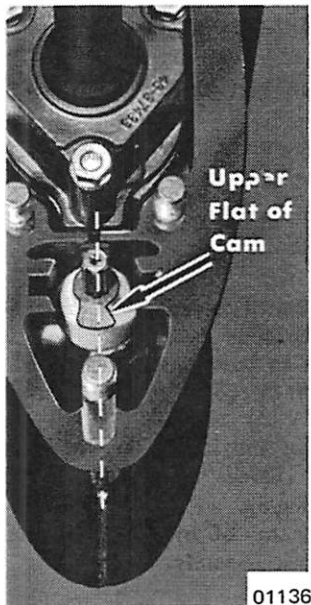
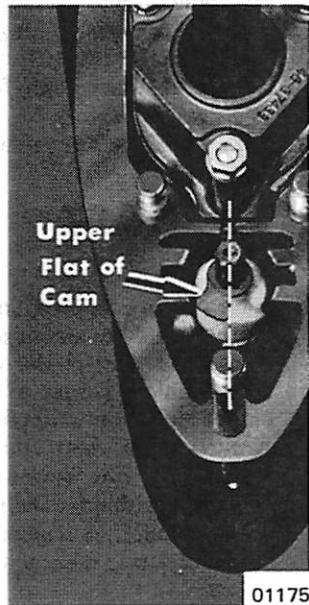

Figure 2. Cam in Reverse
Figure 3. Cam in Neutral
2. Install cam over gear housing shift shaft while unit is in reverse. Note that cam must be positioned so that upper flat of cam is facing front of gear housing when in reverse shift position. (Figure 2) To check cam for correct positioning on shift shaft, shift lower unit into neutral. Cam then should be positioned as shown in Figure 3.